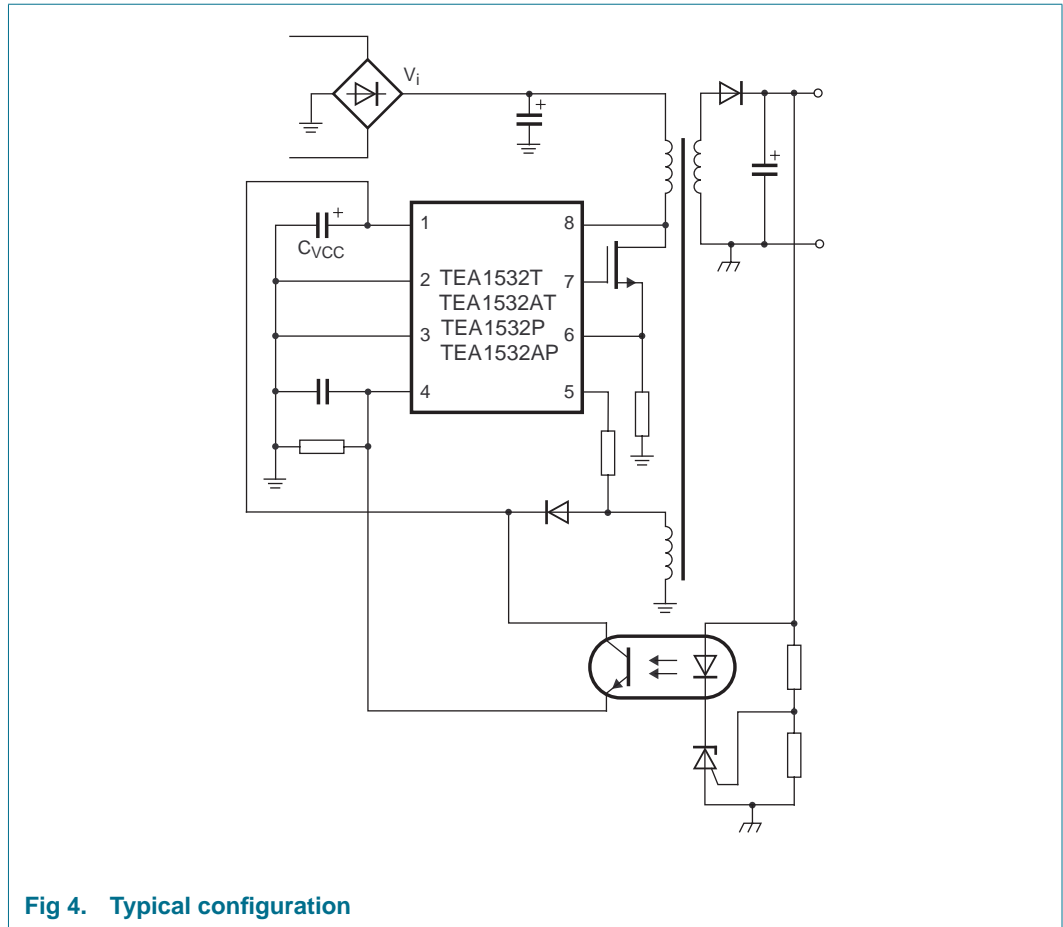

Fig 4. Typical configuration
The TEA1532(A) is the controller of a compact flyback converter, with the IC situated at the primary side. An auxiliary winding of the transformer provides demagnetization detection and powers the IC after start-up; see Figure 4.